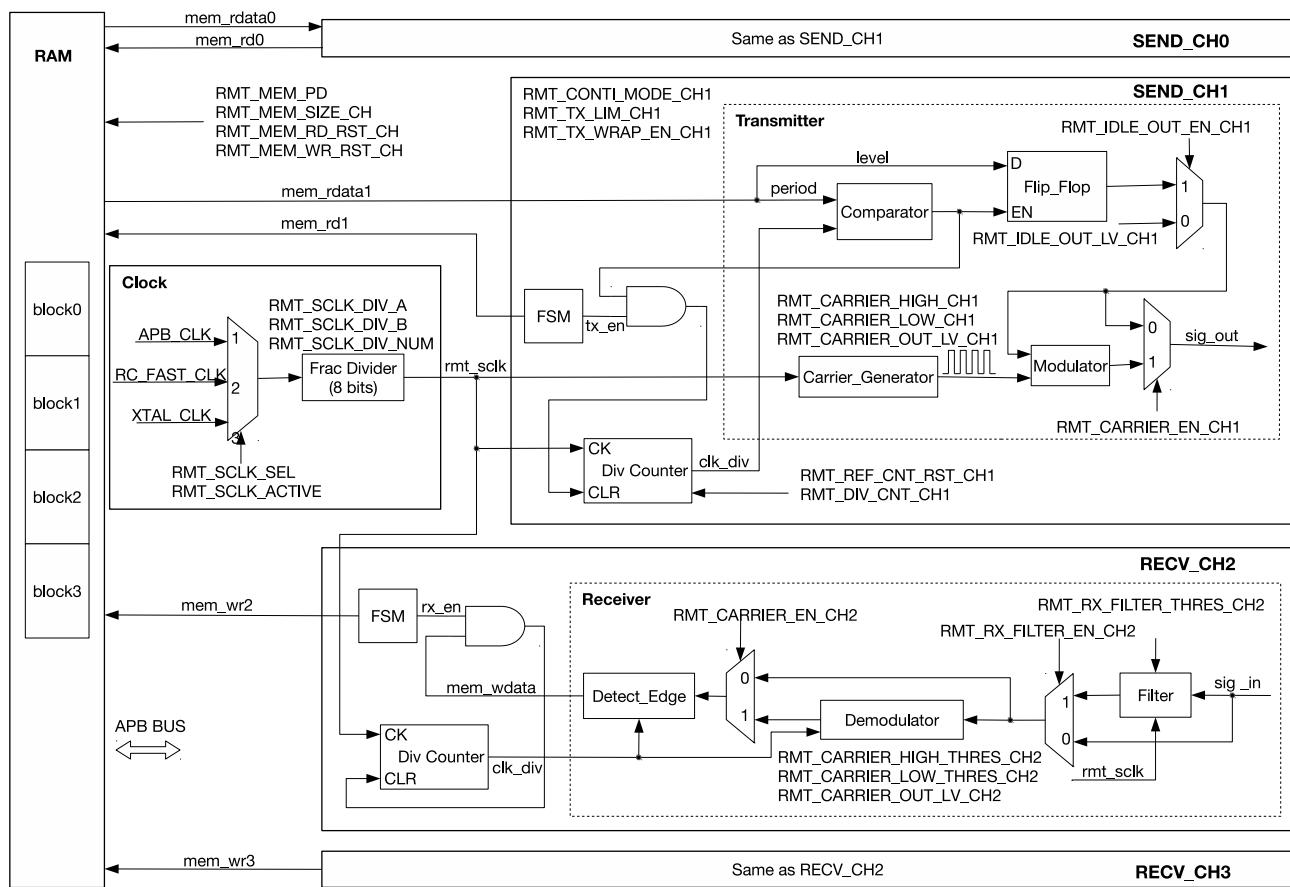

Figure 33.3-1. RMT Architecture
- Period: points out how many clk\_div clock cycles the level lasts for, see Figure 33.3-1.
The clock source of RMT can be APB\_CLK, RC\_FAST\_CLK or XTAL\_CLK, depending on the configuration of RMT\_SCLK\_SEL. RMT clock can be enabled by setting RMT\_SCLK\_ACTIVE. RMT working clock (rmt\_sclk) is obtained by dividing the selected clock source with a fractional divider, see Figure 33.3-1. The divider is:
RMT\_DIV\_CNT\_CH $n/m$  is used to configure the divider coefficient of internal clock divider for RMT channels. The coefficient is normally equal to the value of RMT\_DIV\_CNT\_CH $n/m$ , except value 0 that represents coefficient 256. The clock divider can be reset by clearing RMT\_REF\_CNT\_RST\_CH $n/m$ . The clock generated from the divider can be used by the counter (see Figure 33.3-1).